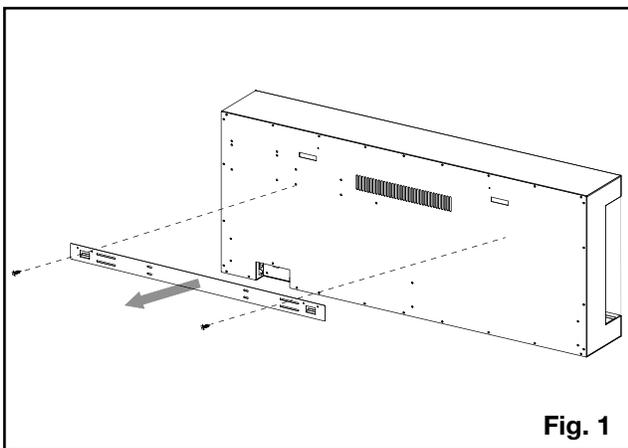

Fig. 1
3. Place the appliance face down on a soft, non-abrasive surface. Remove the bracket from the back of the appliance by removing the screws (**Fig. 1**). Set the bracket aside and discard the screws